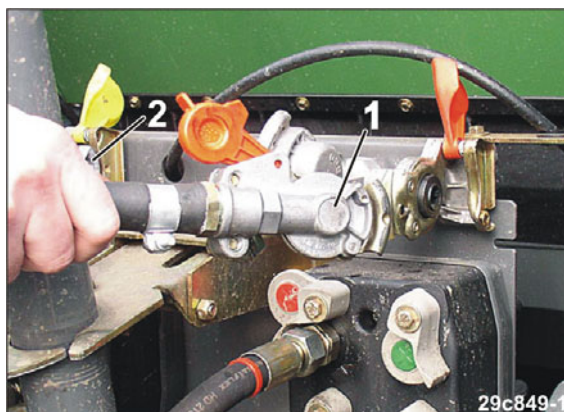

Fig. 126
- a supply line (Fig. 126/1) with coupling head (red).
- a brake line (Fig. 126/2) with coupling head (yellow).